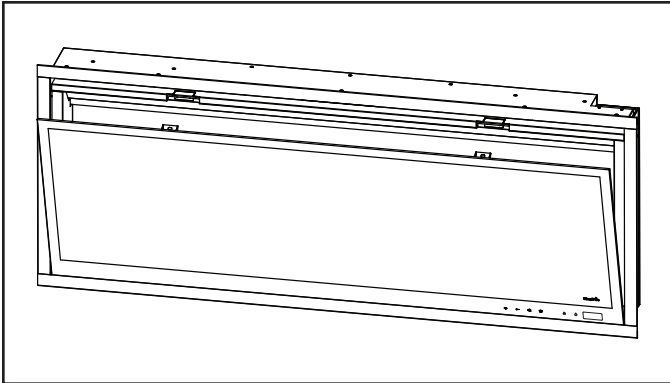

Figure 4.13 Glass Front Installation
1. Angle the glass to place the bottom edge into the channel behind the outer trim. See Figure 4.13.